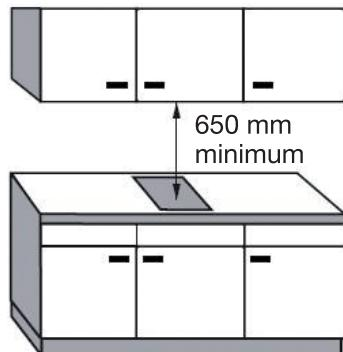

Figure 4
- The safety distance between the hob and any extractor hood placed above it must comply with the hood manufacturer's instructions. If there are no instructions, observe a minimum distance of **650 mm** (see figure 4).